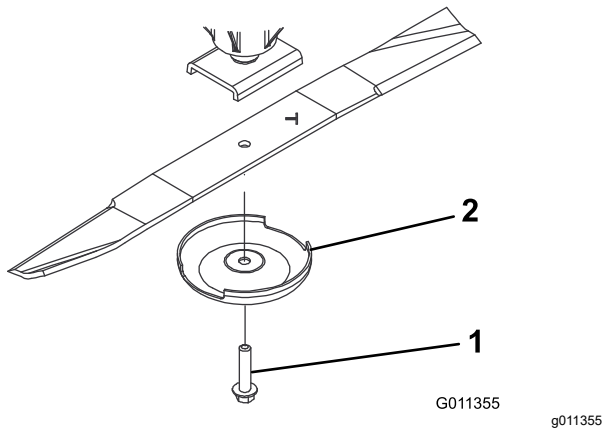

Figure 90
- Remove the blade bolt, anti-scalp cup, and blade from the spindle shaft (Figure 90).